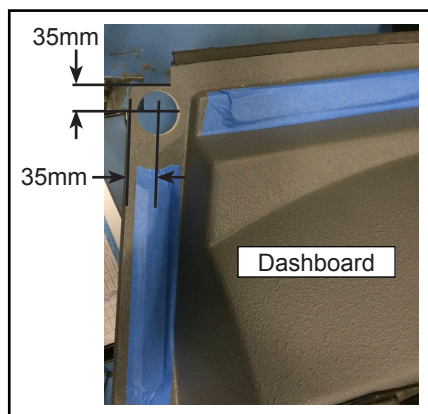

Figure 31 - Position of New Drilled Hole
- 1.34.2. Mark the hole position on the forward left corner of the dashboard (see Figure 31).
- 1.34.3. Drill a new hole of 45 mm on the marked position using 45 mm hole saw drill and clean the inner surface(see Figure 31).